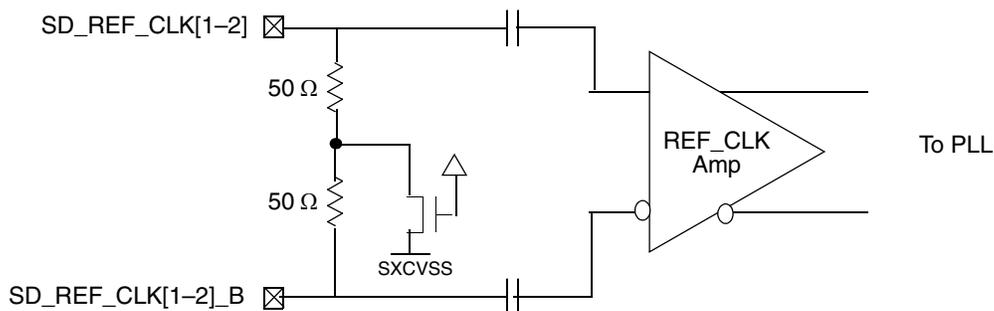

Figure 37. Receiver of SerDes Reference Clocks
The SerDes reference clock inputs are applied to an internal PLL whose output creates the clock used by the corresponding SerDes lanes. The SerDes reference clock inputs are SD_REF_CLK1/SD_REF_CLK1_B or SD_REF_CLK2/SD_REF_CLK2_B. Figure 37 shows a receiver reference diagram of the SerDes reference clocks.
- The SD_REF_CLK[1-2] and SD_REF_CLK[1-2]_B are internally AC-coupled differential inputs as shown in Figure 37. Each differential clock input (SD_REF_CLK[1-2] or SD_REF_CLK[1-2]_B) has on-chip 50- Ω termination to XCOREVSS followed by on-chip AC-coupling.